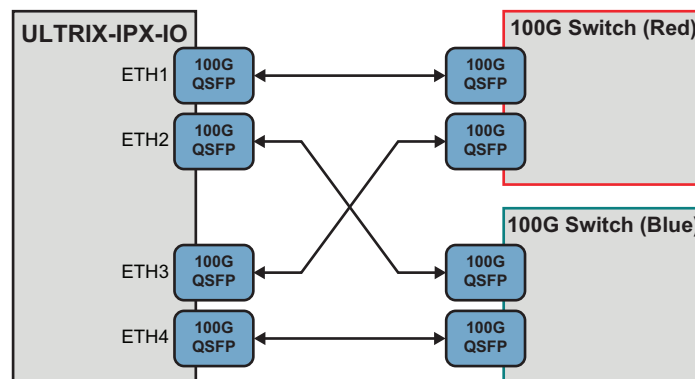

Figure 39 Workflow — QSFP to QSFP 100G Switch with Breakout
**Figure 39** shows a simplified workflow where the ULTRIX-IPX-IO provides bi-directional communication via four 100G QSFP using fiber cables connected to two 100G ethernet switches.